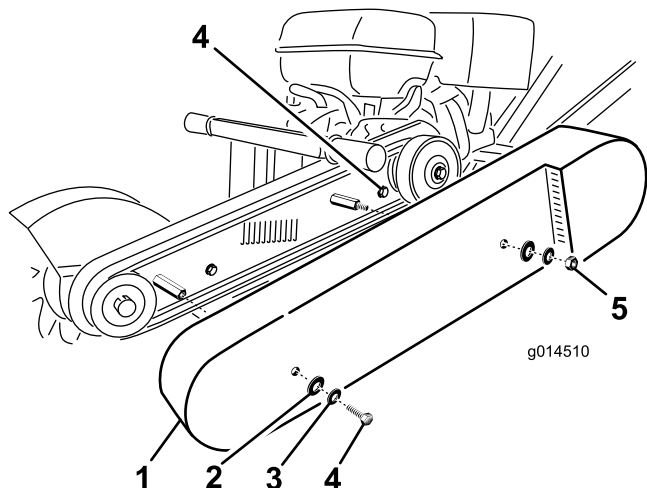

Figure 20
2. Remove belt guard retaining screws (Figure 20).